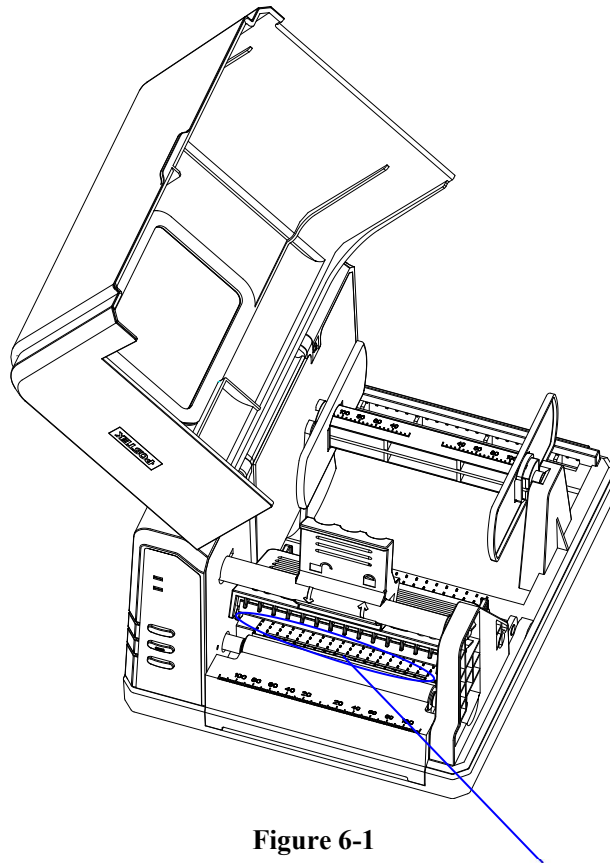

Figure 6-1
1. Lift the top cover (see Figure 6-1).